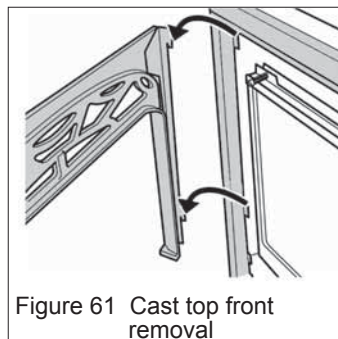

Figure 61 Cast top front removal
- Lift up and unhook the upper casting. The bottom casting does not need to be removed. See figure 61.
- Lift up and unhook the bottom casting. See figure 61.